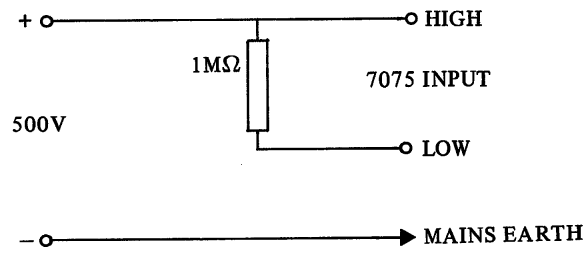

Fig 9.3
1. Connect the instrument as shown in Fig. 9.3